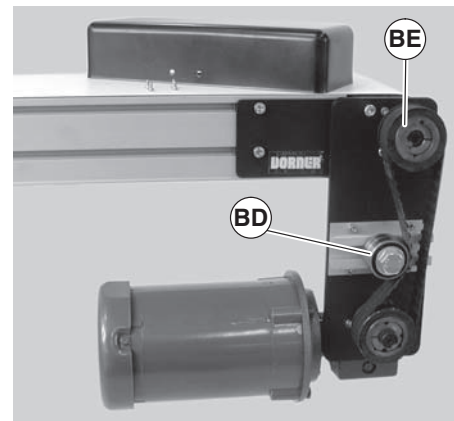
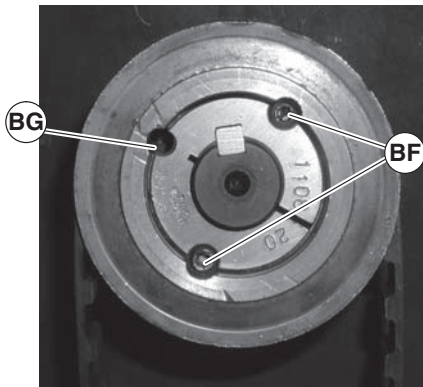

Figure 42
Figure 43
- c. Loosen tensioner (Figure 42, item BD).
- d. Remove taper-lock screws (Figure 43, item BF) on the driven pulley (Figure 42, item BE). Insert one (1) of taper lock screws (Figure 43, item BF) in remaining hole (BG). Tighten screw (BF) until pulley is loose. Remove pulley, taper hub assembly and timing belt.